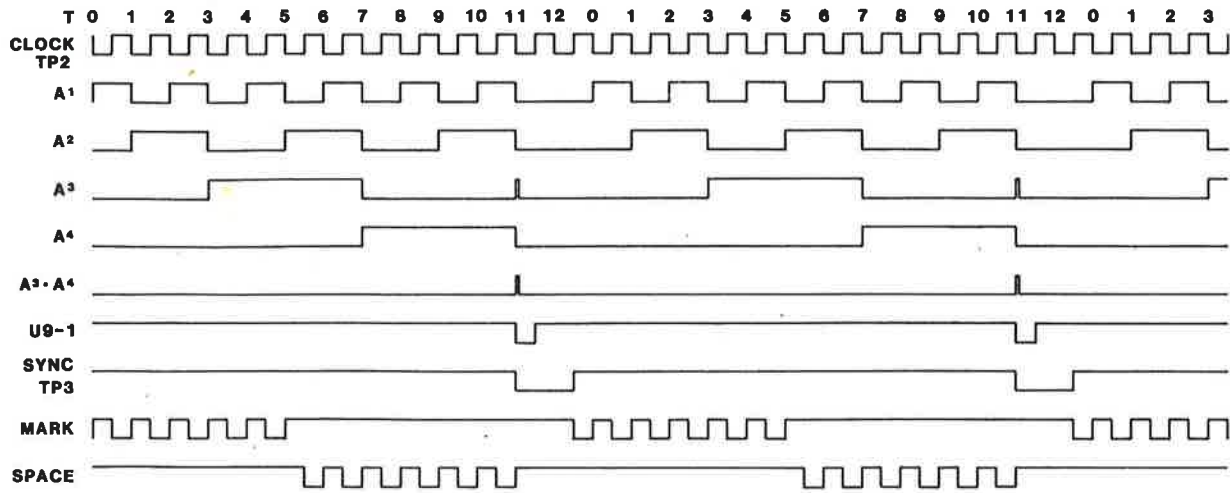

Figure 2. Twelve Point Scanner - Timing Diagram
4.12 When the scan count reaches 12 (T11, Figure 2), signals A2, and A4 go high to the inputs of NAND gate U12-11 resulting in a high output from gate U12-11 to reset flip-flops U9-1 and U9-13. With flip-flop U9-13 reset, its output at pin 12 goes high to initialize counter 1 of U7 and disable further counting until flip-flop U9-13 sets. The low output from gate U9-13 is routed to disable FSK keying gates U11-9 and U11-6 and inhibit transmission of Mark or Space signals, which is sensed by the companion receiver as a sync interval.